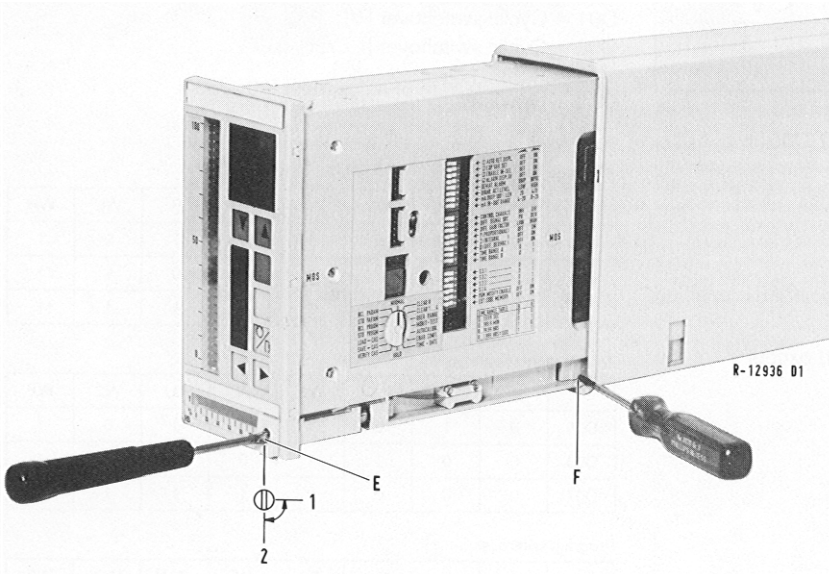

Fig. 25 Withdrawing the module
- Insert instrument completely into case and turn lock "E" (Fig. 25) clockwise.